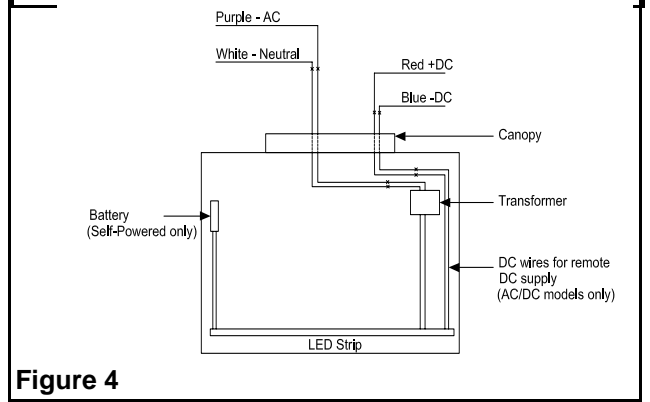

Figure 4
- 2. **Electrical connections:** Connect one end to the transformer leads, inside the enclosure, and the other end, to AC line voltage inside the junction box. Connect the white lead to neutral and the purple lead to AC line voltage (the input is universal 110 to 347 VAC). (See fig. 4). Connect the ground(green wire) to the junction box.
**Optional:** For AC models used with DC remote power. One end connects to the LED-STRIP leads, inside the enclosure, and the other end to DC input inside the junction box. Connect the red lead to positive, and the blue lead to the negative of the remote DC input (See fig. 4).
**For wall mount:** Attach the frame(6) to the junction box, using the junction box supplied screws.Install 2 stem washers to ensure bonding.